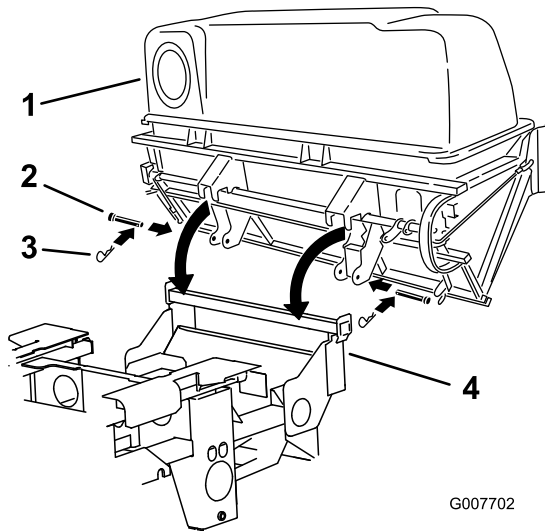

Figure 10
1. Install the bagger assembly onto the bagger mounting bracket (Figure 10).
2. Install the 2 clevis pins into the bagger assembly and bagger mounting bracket. Secure it with 2 hairpin cottes (Figure 10).